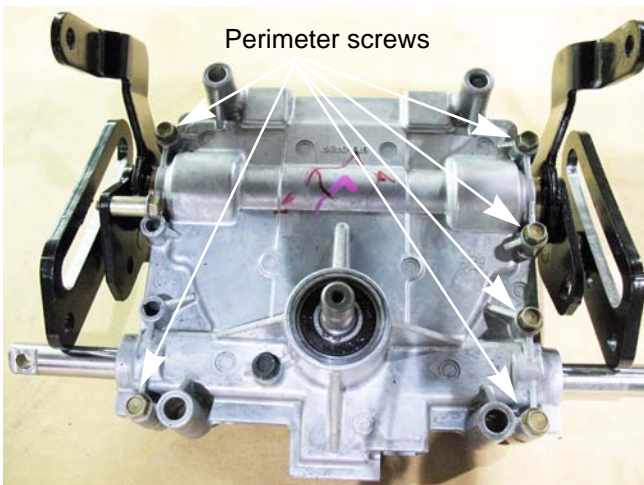

Figure 6.64
23. Install the six perimeter screws using a 3/8" wrench. See Figure 6.64.